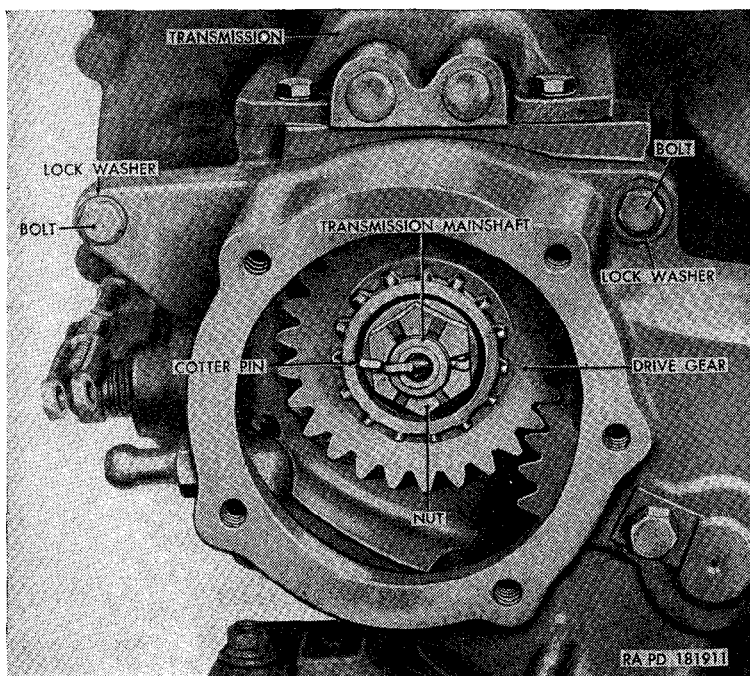

Figure 127. Transfer drive gear installed.
- d. Shift transmission out of neutral and remove the cotter pin, nut (fig. 127), and washer securing the transfer drive gear to the transmission main shaft. Shift transmission back to neutral. Pull the drive gear off the shaft.
- e. While supporting the transfer, remove the four bolts and lockwashers (fig. 127) two at the top, and two at the bottom, securing the transfer to the transmission. Remove a fifth bolt and lockwasher securing the transfer to the transmission from the lower right rear of the transmission flange.
c. Make certain the transfer and transmission mating surfaces are clean and free of old gasket material. Coat a new transfer case-to-transmission gasket with plastic-type gasket cement and position the gasket on the front side of the transfer case. Make certain the transmission main shaft bearing is in place against the transmission rear flange. Position the transfer assembly on the rear of the transmission assembly. Secure the transfer to the transmission with four  $\frac{3}{8}$  x  $1\frac{1}{8}$  bolts (fig. 127).